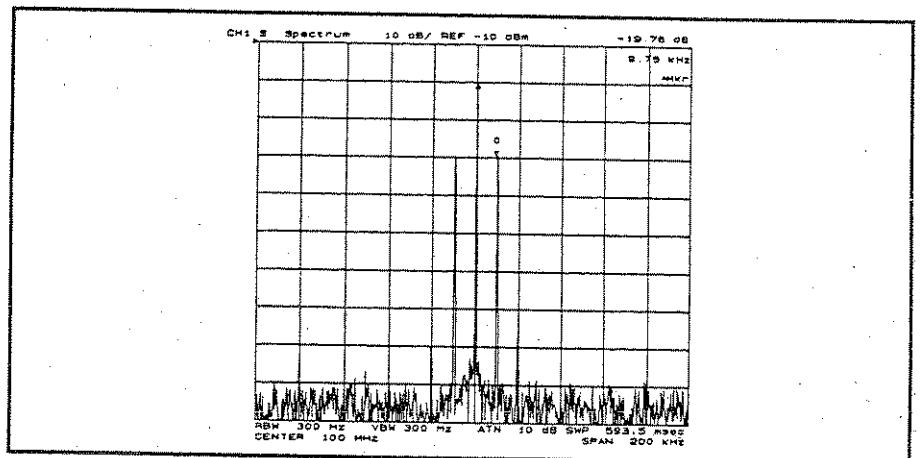

Figure 3-13. Modulating Frequency of AM Signal
4. Press **Search** SEARCH:PEAK NEXT PEAK to search for a sideband. The offset value from the carrier is displayed as the marker sweep parameter value shown in Figure 3-13. This value is the modulation frequency.
where ΔMkr is the Δ marker sweep parameter value shown in Figure 3-13.